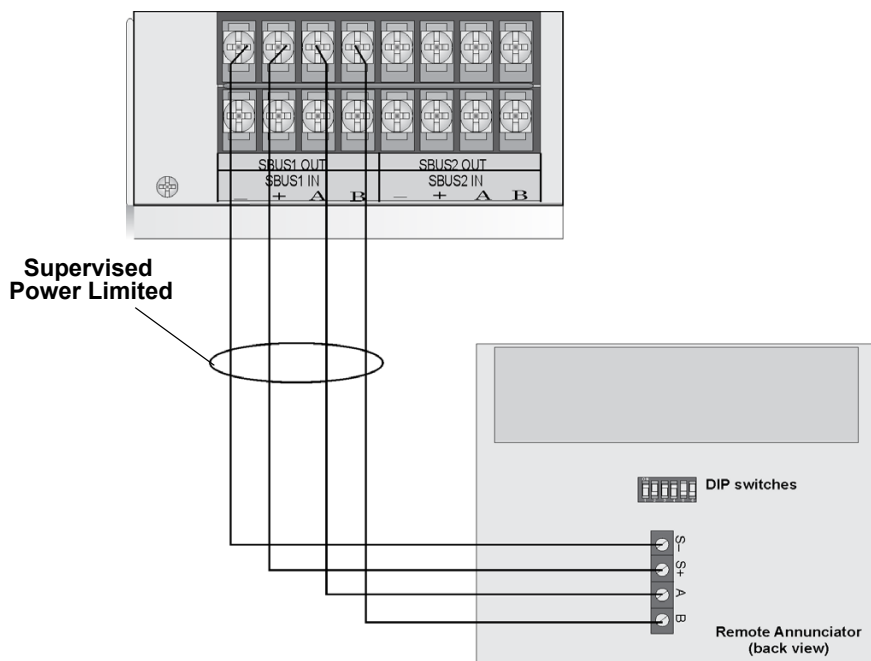

**Figure 4.16 Installing Trim Ring**
4. Place the trim ring over the backbox as shown in Figure 4.16.